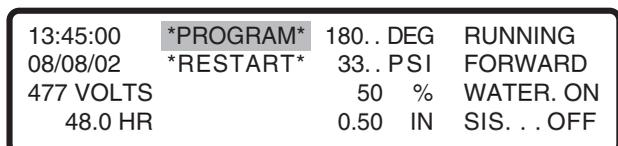

Figure 4.68
*NOTE: A *PROGRAM* message will now appear on the status screen as illustrated in fig. 4.68. This indicates that a program has been loaded and is current (will be executed). The water depth will now be changed from 0.50 to 0.75 inches (step 1 of program #1) as soon as the position of the pivot reaches 0 degrees.*